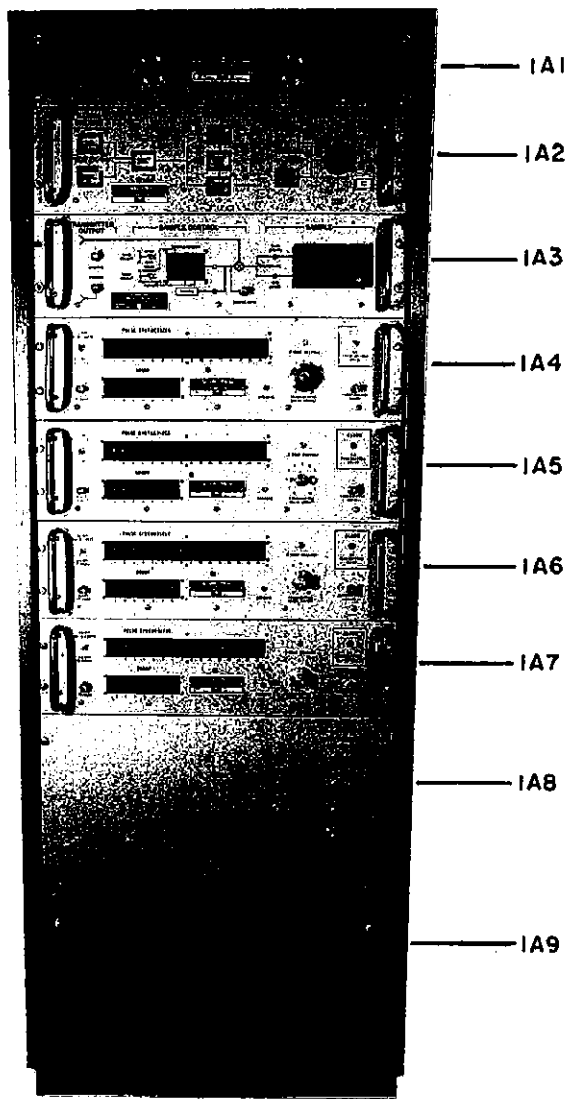
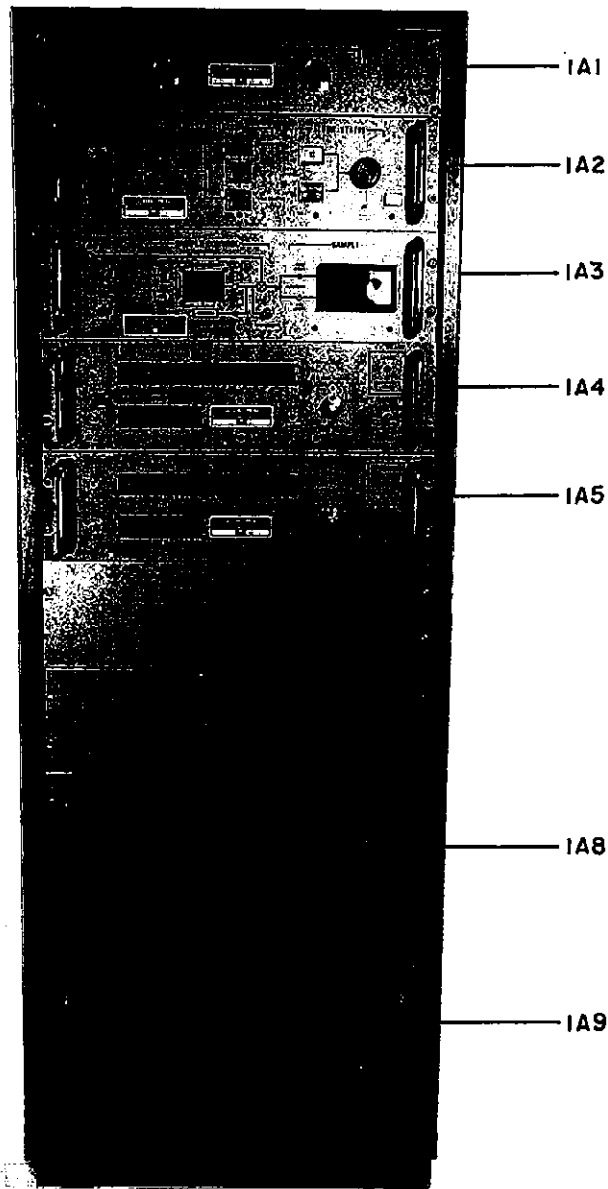

Figure 1.1. AN/FPN-60(V)2 Transmitter Control Set
Figure 1.2. AN/FPN-60(V)1 Transmitter Control Set
1.1 Introduction. This technical manual provides a description of the various units of the AN/FPN-60(V) and AN/FPN-60A(V) Transmitter Control Sets (TCS). The TCS is installed at Loran-C Transmitting Stations which have the AN/FPN-44A or 45B Loran-C Transmitter installed. The TCS generates the drive waveforms for the transmitters and monitors the transmitter status and parameters of the transmitted signal. The TCS also provides an interface between the transmitter and the timing and control equipment. Figures 1.1 and 1.2 show the equipment for a dual-rate and single-rate configuration, respectively. Figure 7.1 is the Loran-C System Block Diagram. Appendix A contains diagrams of changes that have been made to the various transmitters and have not been placed in the transmitter technical manuals. Appendix B contains information on the ROS modified equipment in the AN/FPN-60A(V) TCS.
1.2.1 The Transmitter Control Set (Figures 1.1 and 1.2) performs the following functions:
1.3.4 Pulse Generator (1A4-1A7). A dual-rated station has Pulse Generators 1A4 thru 1A7 (see Figure 1.1). A single-rated station has Pulse Generators 1A4 and 1A6 (see Figure 1.2). The Pulse Generator (Figure 1.6) contains the Pulse Control Module W0678-2/PCON, Group Droop Module W0678-19B/GR DROOP (for dual-rated stations and stations having tail drive), and Pulse Synthesizer Module W0678-1/PSYN. The Group Droop Module W0678-20/GR DROOP is unique to LORAN STATION CAPE RACE, replacing the W0678-19B/GR DROOP module. The Pulse Generator (PGEN) performs the following functions: